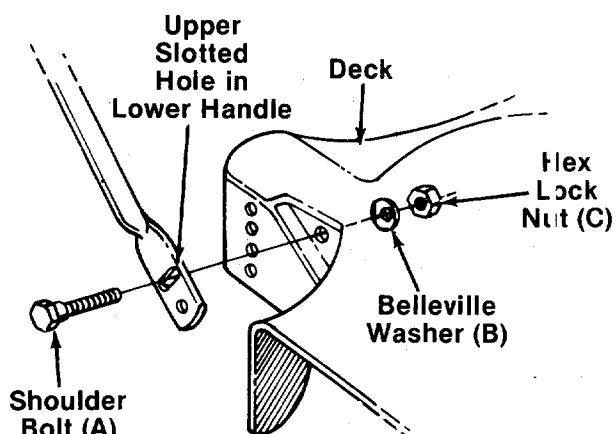

FIGURE 2.
1. Line up the upper slotted hole in lower handle with the mounting hole on deck and the hole in the rear baffle (on the inside of the deck). Make certain the instruction label on the lower handle can be read from the operating position. Place shoulder bolt (A) through lower handle, deck and baffle. See figure 2. Place Belleville washer (B) on the shoulder bolt, with the cupped side of the washer against the deck. Secure with hex lock nut (C).